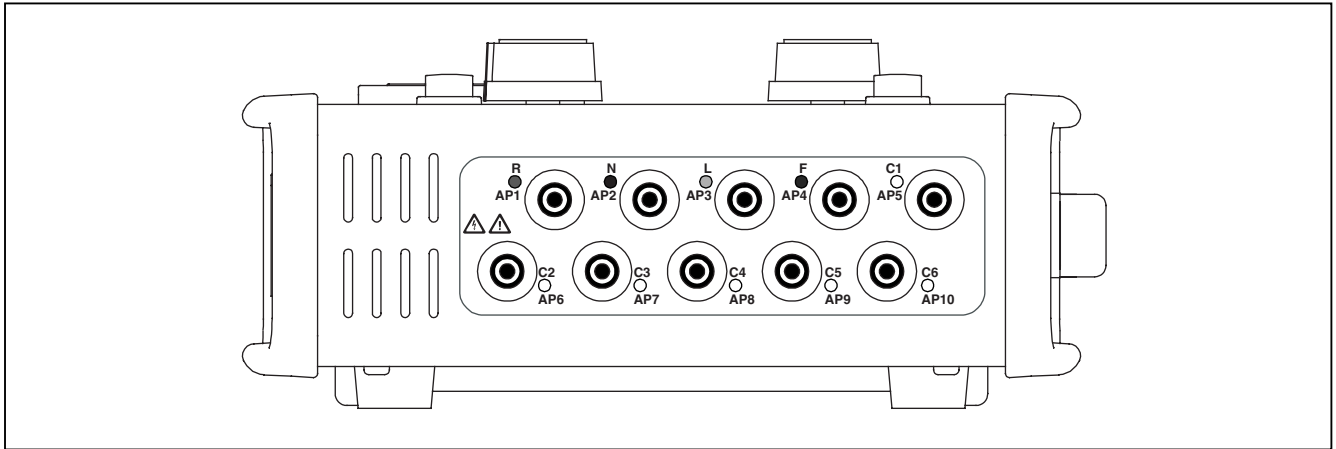
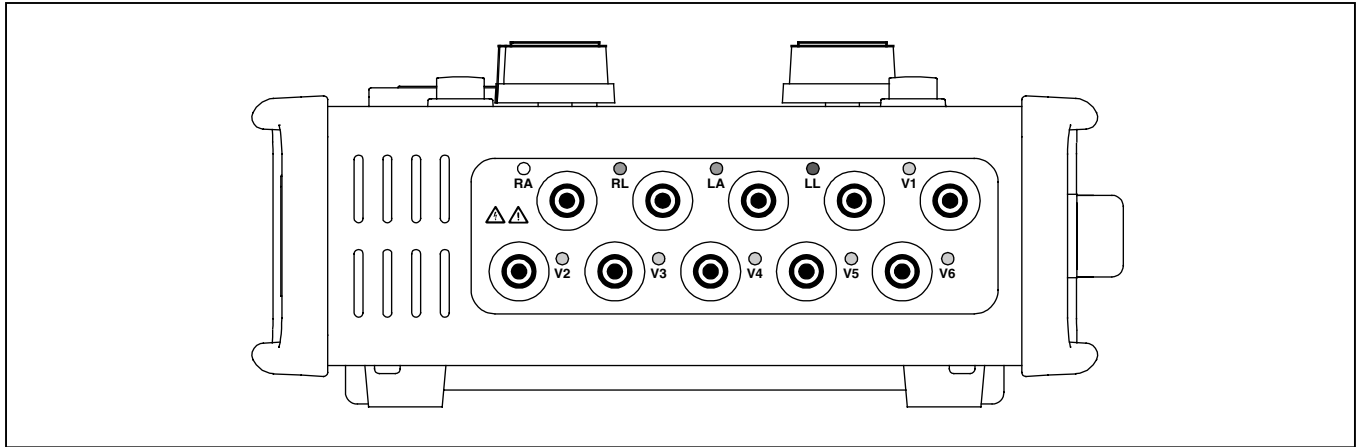

Figure 2. Back Panel View of the ESA601 (IEC)
Figure 3. Back Panel View of the ESA601 (AAMI)
The back panel of the ESA601 features a full set of universal ECG jacks for connecting applied parts. Figure 2 shows the IEC nomenclature and Figure 3, the AAMI nomenclature. AHA and IEC color-coded dots label the jacks as an aid to connecting the corresponding U.S. and international ECG leads. Table 4 identifies the use of each ECG jack.
1. Connect the DUT's applied parts to the universal ECG jacks on the back panel of the **ESA601**. (See Figure 3.) AHA and IEC color-coded dots label these jacks as an aid to connecting the corresponding U.S. and international ECG leads.